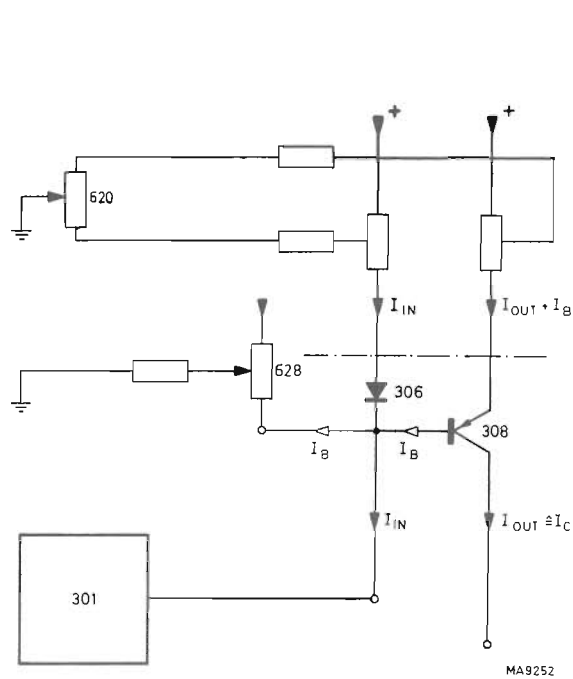

Fig. 8. Principle of the current mirror
- 3.1.3.3. The output currents of the voltage-current converters are "reflected" by each a current-mirror pair in ratio 1:1 or 10:1 and supplied to the oscillator. The current mirrors are mainly made of a series diode (e.g. U5/306) and resistor; see example in fig. 8.
The practical differences of the input diodes and the differences in resistances are compensated by potentiometer (e.g. fig. 8, U5/620). The built-in potentiometer supplies a correcting voltage, causing a correcting current superimposition.